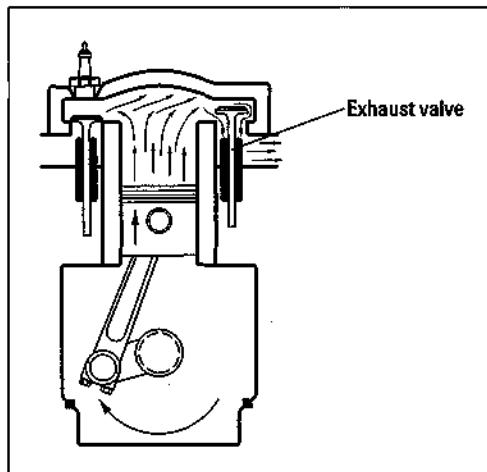

Figure 6-17:
4. **Exhaust stroke:** (See Figure 6-17.) The piston moves *up* again, pushing the burned gases up with it. Then the exhaust valve opens and lets the burned gases out into the exhaust manifold. From there, the burned gasses travel through the exhaust system (which, on newer cars, includes anti-pollution devices), through the muffler, and out the tailpipe into the environment.